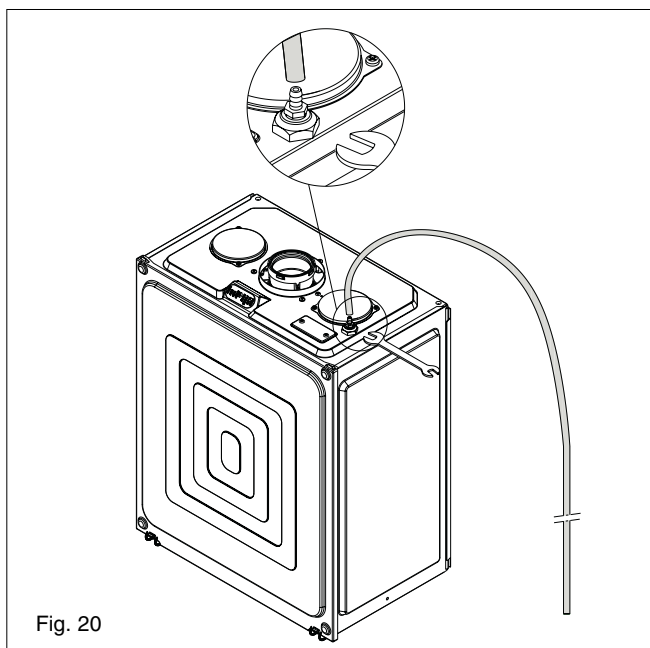

Fig. 20
5.3.1 MANUAL AIR RELEASE (fig. 20)